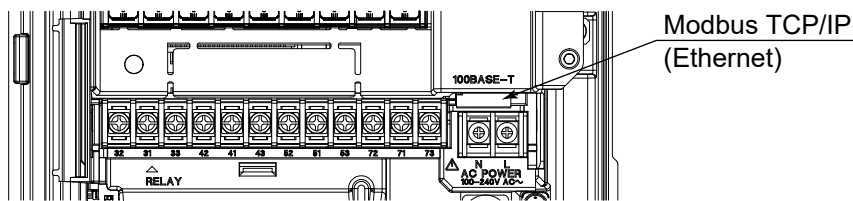

Figure 1.3 FLXA 402 Module installation (example, without shield cover)
*1: Model and Suffix Code specified for 1st/2nd sensor module defines what is printed on the shield cover, next to the sensor module. Figure 1.3 shows an example of selecting -P1 for both modules. The following list shows what is printed according to MS code.